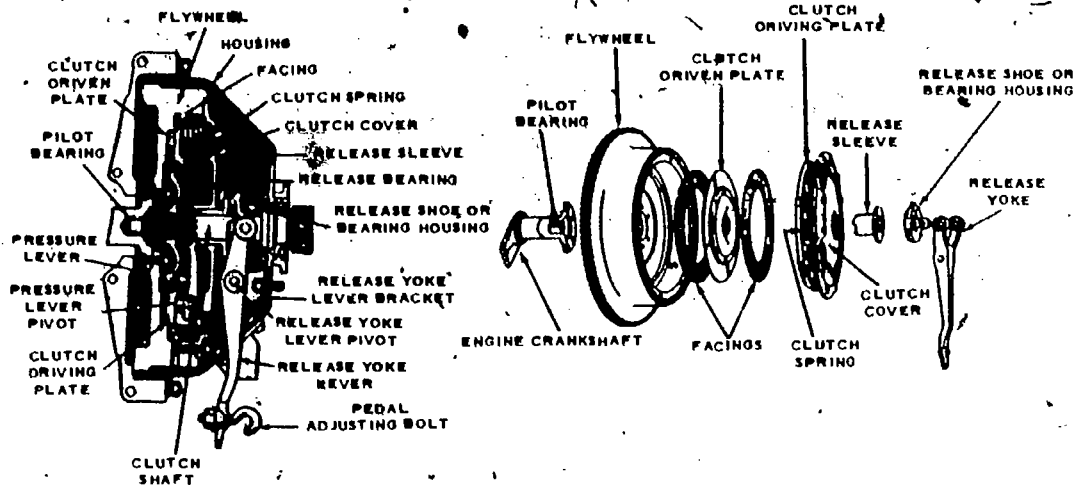

Fig 2-41. Exploded and cross-sectional views of disk clutch.
- (1) Operation (fig 2-41). Clutches generally transmit power by bringing one or more rotating drive members, attached to the crankshaft, into gradual contact with one or more driven members (plates) secured to the unit being driven (transmission, gear train). Contact is made and held by strong spring pressure which is controlled by the driver with the clutch pedal. With only a light spring pressure, pedal depressed, there is little friction between the plates which permits a great deal of slippage. As spring pressure increases, friction also increases, and less slippage occurs. When the operator removes his foot from the clutch, and full spring pressure is applied, all slippage stops, and the speed of the driving and driven plates is the same. There is then a direct connection between the driving and driven members.